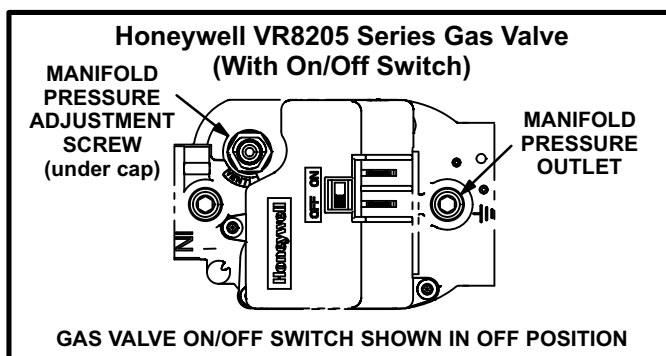

FIGURE 27
Gas Valve Operation (Figures 27, 28 and 29)
- 6 - *Honeywell VR8205 Gas Valve with ON/OFF Switch* - Move gas valve switch to **OFF**. See figure 27.
- 8 - *Honeywell VR8205 Gas Valve with ON/OFF Switch* - Move gas valve switch to **ON**. See figure 27.
- 4 - *Honeywell VR8205 Gas Valve with ON/OFF Switch* - Move gas valve switch to **OFF**. See figure 27.
- 2 - After the line pressure has been checked and adjusted, check the manifold pressure. A natural gas to LP/propane gas changeover kit is required to convert the unit. Manifold pressure for all units is given in table 11. See figures 27, 28 and 29 for the location of the manifold pressure adjustment screws.